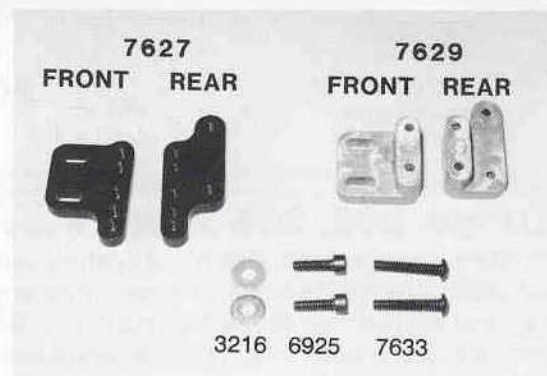

Fig. 261
□ **Figs. 261, 262 & 263** Open the engine mount bag, in the engine installation pack, and remove the #7627 or #7629 engine mount adapters (your mounts should be black), two #7633 4-40 x 5/8" BHSScrews, two #6925 4-40 x 1/2" SHCScrews, and two #3216 #4 steel washers (gold colored). We will start with the #7627 rear engine mount adapter and the two #7633 BHSScrews as shown in fig. 261. The two button head screws will install from the bottom of the chassis. They will go through the slots in the rear engine mount and then thread into the rear engine mount adapter as shown in fig. 263. We want to be able to slide the adapters forward or backwards, so only lightly secure the mounting screws.